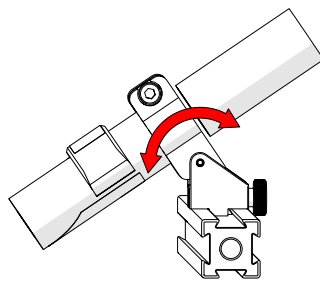

Fig. 199 - Aim guide
3. Adjust the guide's friction pivot to aim the guide as required (Fig. 199).